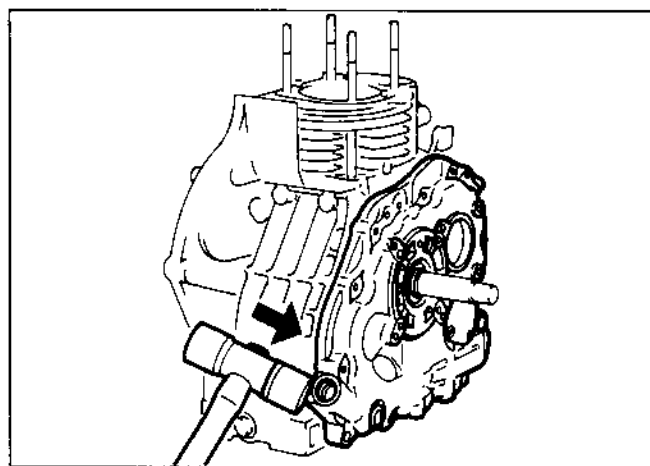

FIG. 33
| 18   | Main bearing cover  | (1) Remove the bolts joining the main bearing cover and crankcase.8 $\phi \times 35$ mm bolt..... 11pcs.8 $\phi \times 40$ mm bolt.....1pce.(2) Lightly tapping with a plastic hammer, remove the main bearing cover from the crankcase. (See Fig. 33.) | Be careful not to damage the oil seal.          | 12 mm box wrenchplastic hammer |